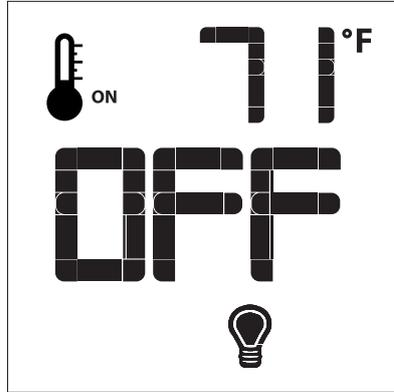

Fig. 19
The dimmer function controls the Light power outlet by power light control. To activate this function use the Mode Key (fig. 1) to index to the Light icon (fig. 19 & 20). The intensity of the output can be adjusted through six (6) levels. Use the Up/Down Arrow Keys (Fig.1) adjust the output level (fig. 16). A single “beep” will confirm reception of the command.